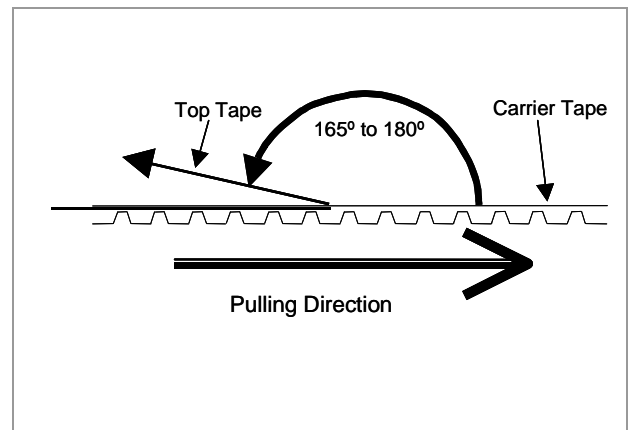

Fig.9 Peeling Strength
- The power peeling top tape from carrier one shall be  $0.1N$  {10gf} to  $0.7N$  {70gf}. "Fig.9"